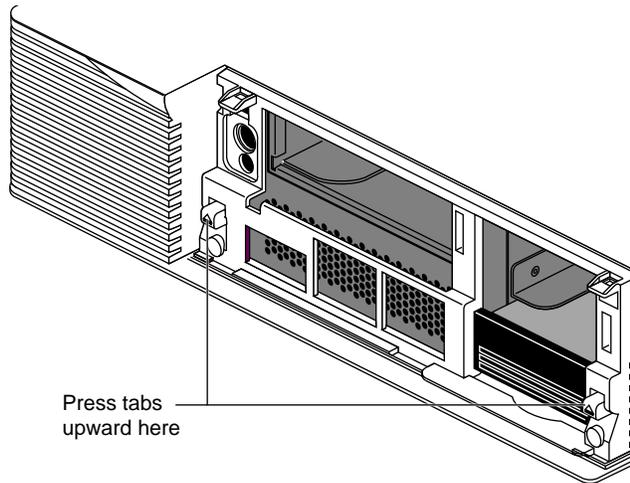

Figure 5-5 Releasing the Top Cover
- Press up on the tabs on each side of the drive openings as shown in Figure 5-5.